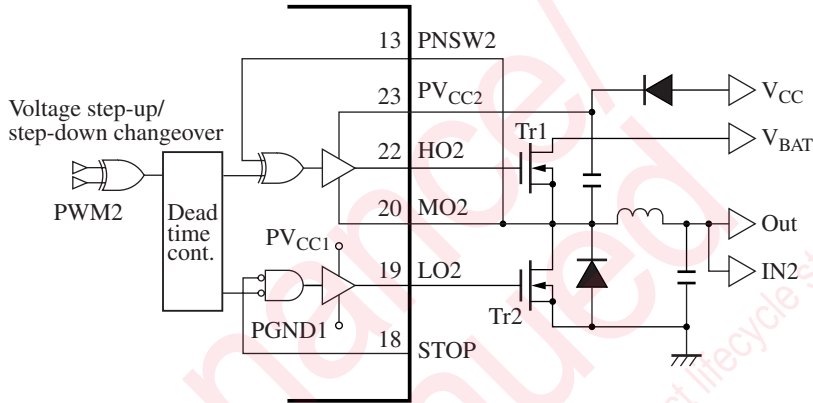

Figure 14
- Ch.2 output part circuit block and the voltage step-down time peripheral circuit example are shown in figure 14.